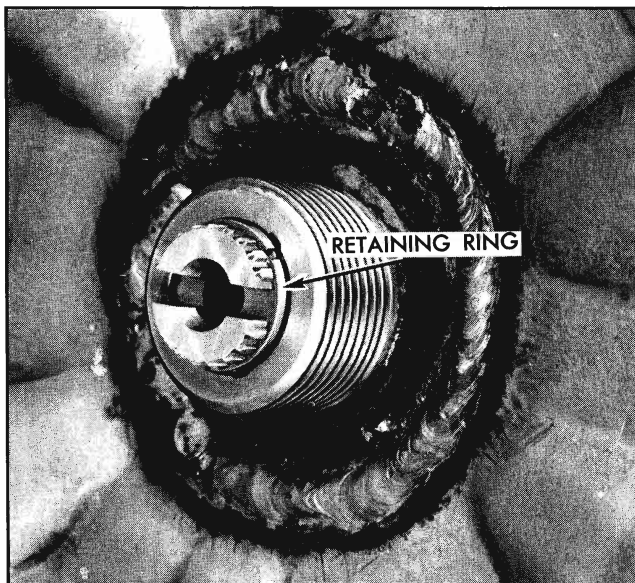

Fig. 7A-78 Converter Retaining Ring
5. Install turbine shaft into converter and then install converter and turbine shaft (Fig. 7A-77) using care not to damage turbine shaft bushings when sliding over converter pump shaft. It is necessary to use caution in engaging splines in converter and at end of turbine shaft. Do not force, engagement will occur easily if splines are correctly aligned.
6. Retain converter with retaining ring (Fig. 7A-78). Pull converter rearward to trap ring. Hold in this position.